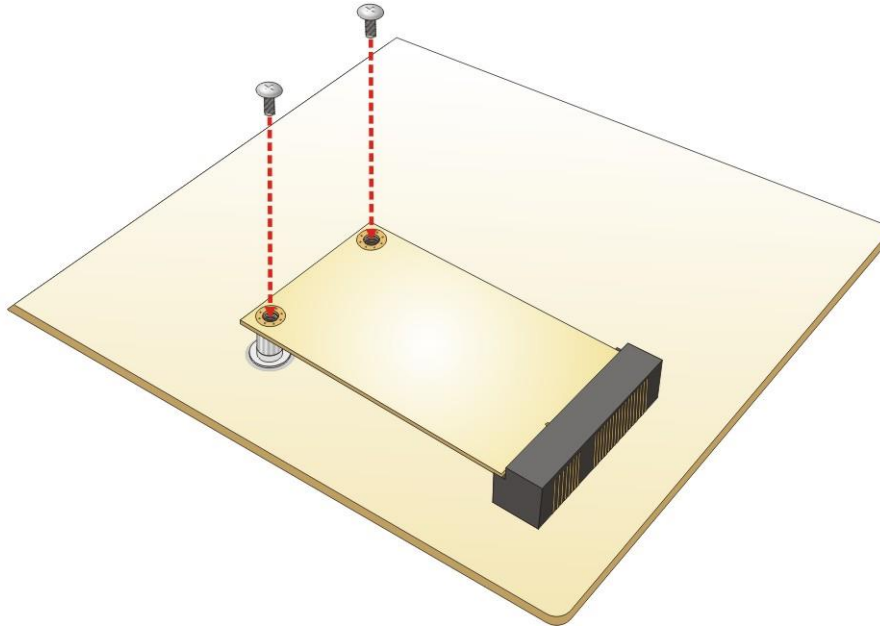

Figure 4-16: Securing the mSATA Card
**Step 4:** Secure the mSATA card. Secure the mSATA card with the retention screws previously removed (**Figure 4-16**).